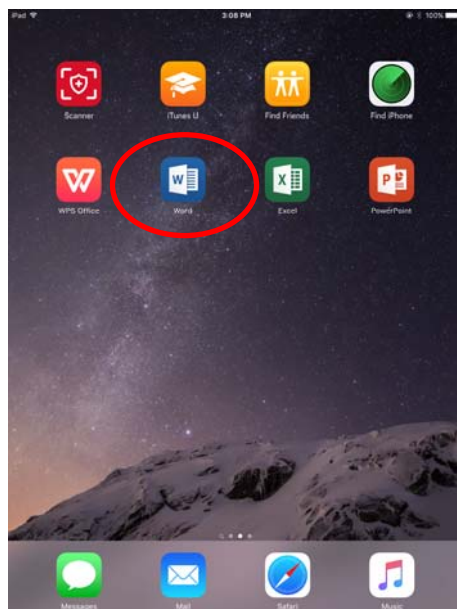

Figure 37
2.1 Install and run “Word”, as shown in Figure 37.